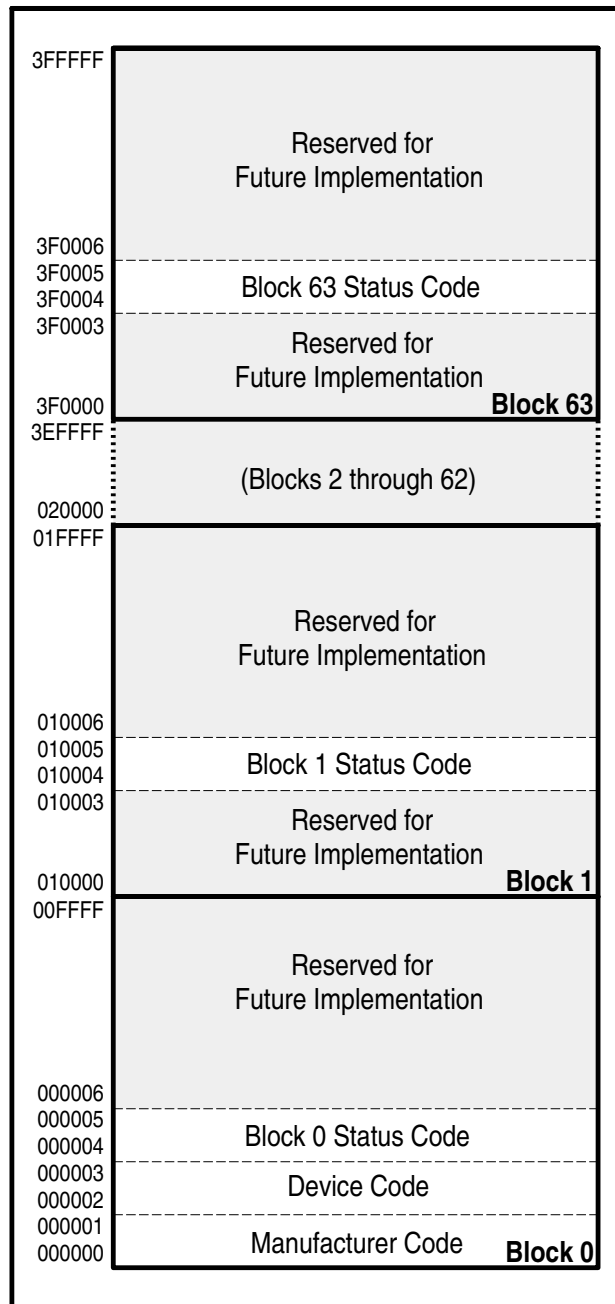

Figure 4. Device Identifier Code Memory Map
The read identifier codes operation outputs the manufacturer code, device code, block status codes for each block (see Figure 4). Using the manufacturer and device codes, the system CPU can automatically match the device with its proper algorithms. The block status codes identify locked or unlocked block setting and erase completed or erase uncompleted condition.
IA=Identifier Code Address: see Figure 4.
The identifier code operation is initiated by writing the Read Identifier Codes command. Following the command write, read cycles from addresses shown in Figure 4 retrieve the manufacturer, device, block lock configuration and block erase status (see Table 5 for identifier code values). To terminate the operation, write another valid command. Like the Read Array command, the Read Identifier Codes command functions independently of the V_{PP} voltage and RP# must be V_{IH} . Following the Read Identifier Codes command, the following information can be read:
1. X selects the specific block status code to be read. See Figure 4 for the device identifier code memory map.